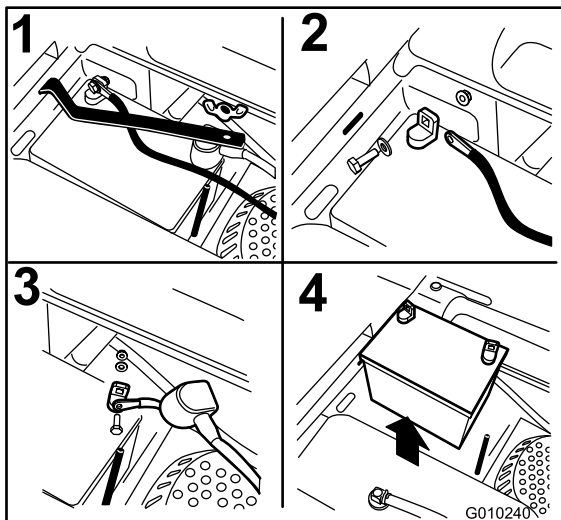

Figure 42
3. Remove the wing nut securing the battery clamp (Figure 42).
5. Slide the red terminal boot off the positive (red) battery terminal and remove the positive (+)(red) battery cable (Figure 42).
6. Remove the clamp (Figure 42).
1. Position battery in the tray with the terminal posts opposite from the hydraulic tank (Figure 42).
4. Secure the cables with 2 bolts, 2 washers, and 2 locknuts (Figure 42).
6. Install the clamp and secure it with the wing nut (Figure 42).
4. First disconnect the negative battery cable (black) from the negative (-)(black) battery terminal (Figure 42).